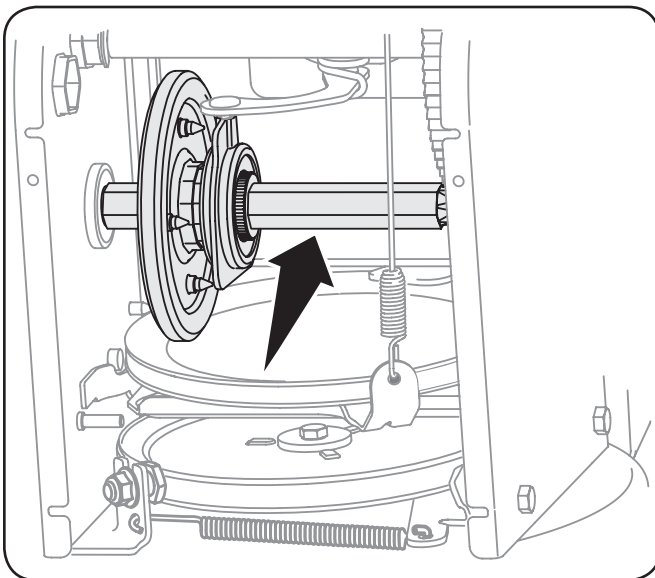

Figure 6-4
4. Apply a light coating of engine oil (or 3-in-1 oil) to the hex shaft. See Fig. 6-4.